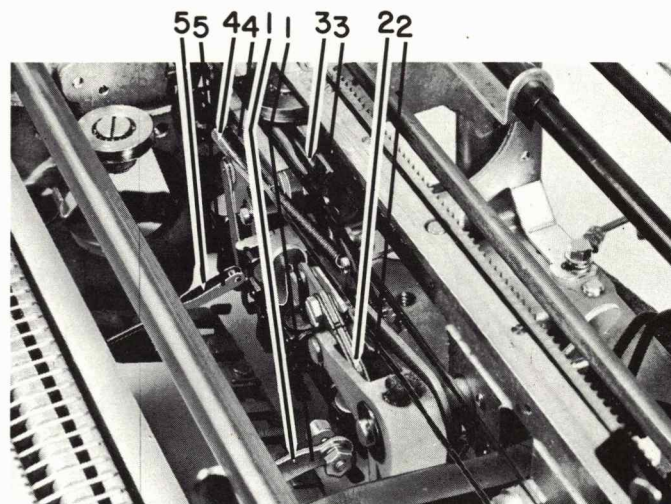

FIGURE 30. Differential Plate Removal
15. Remove the cycle-clutch latch bracket (#1, Figure 30).
16. Remove the C-clip from the negative latch link (#2, Figure 30).
17. Remove the C-clip from the tilt-link stud (#3, Figure 30).
18. Remove the rotate-arm spring (#4, Figure 30).
19. Detach the check-latch clevis (#5, Figure 30).